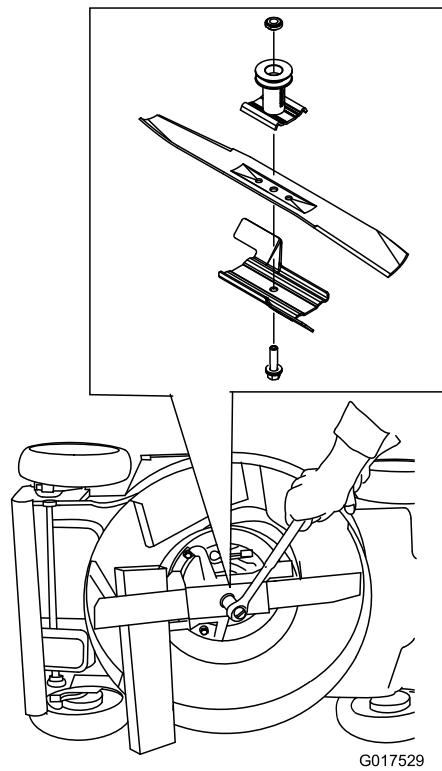

Figure 29
3. Use a block a wood to hold the blade steady (Figure 29).